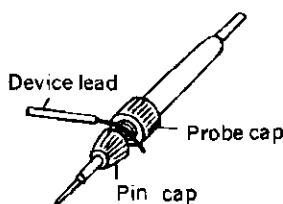

Fig. 4
- If it is difficult to use the tip of the pin lead, screw back the pin cap and place the device lead in the gap thus created. Screw the cap up against the device lead to secure it. (See Fig. 4.)